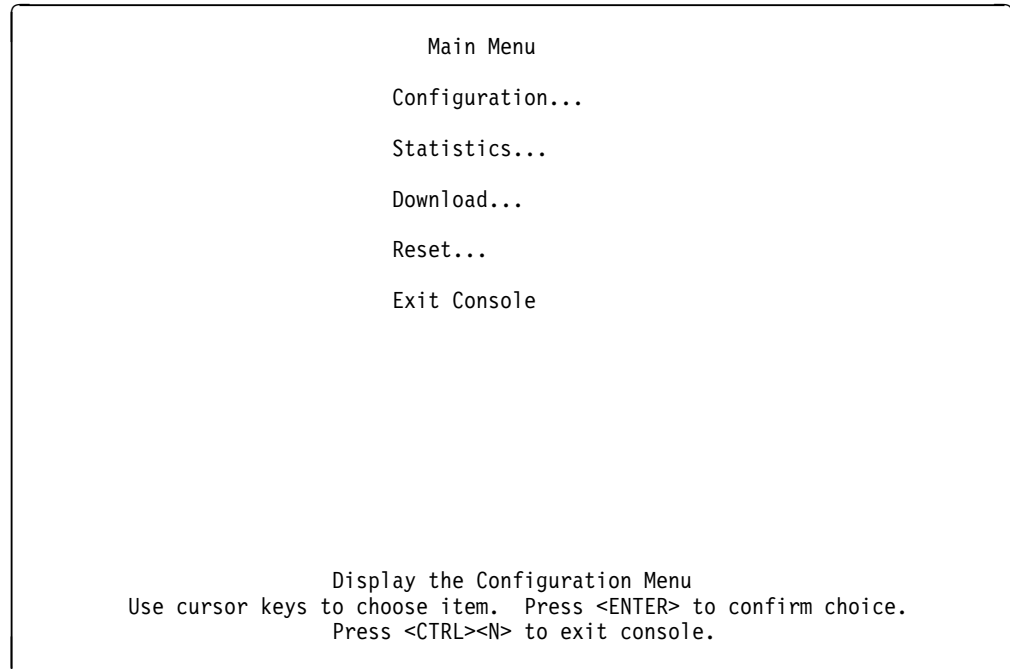
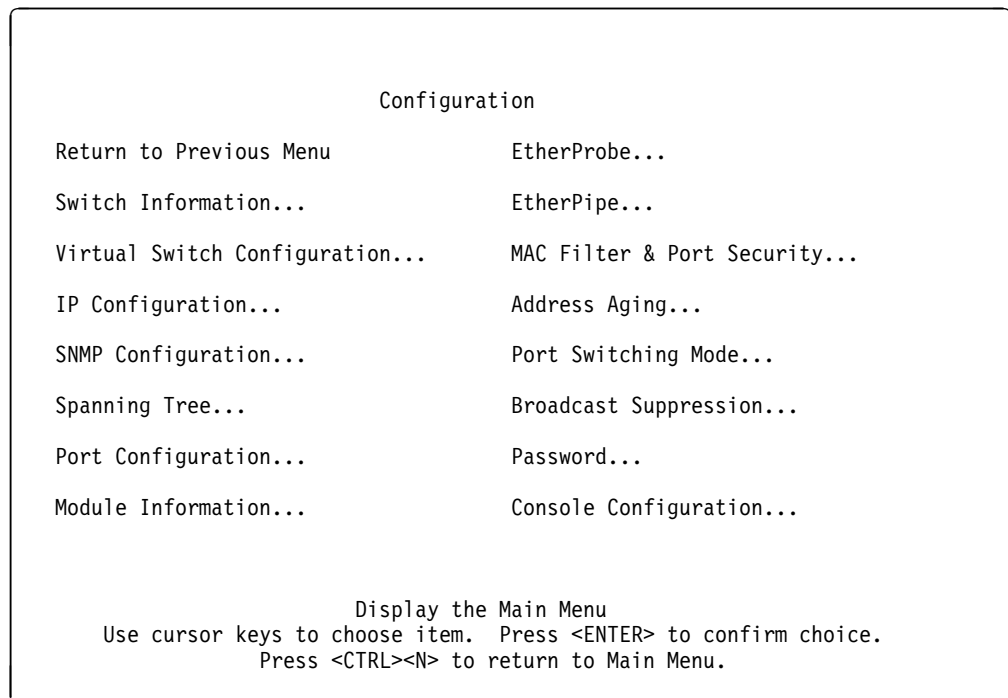

Figure 4-2. Main Menu
Figure 4-3. Configuration Menu
- Step 3.** Then, press **Enter** to advance to the Main Menu as shown in Figure 4-2 on page 4-7.
- From the Main Menu shown in Figure 4-2 on page 4-7, select **Configuration...** to advance to the Configuration menu shown in Figure 4-3